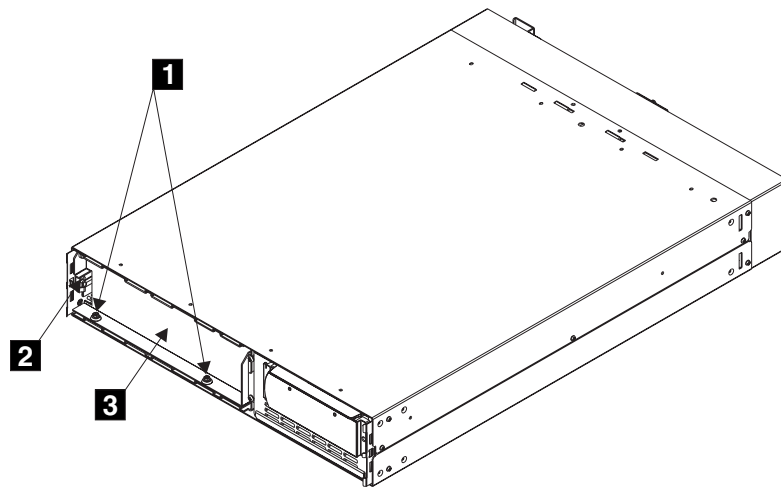

Figure 276. Fastening the battery retaining bracket
- a. Replace the battery retaining bracket (**3** in Figure 276).